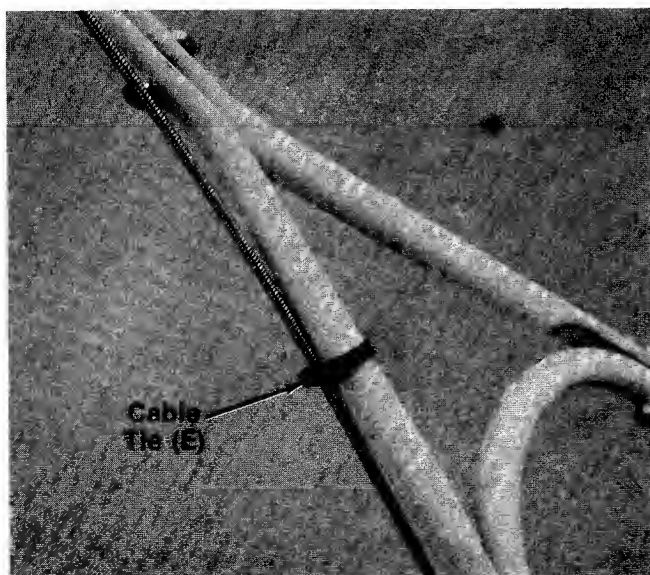

FIGURE 7.
11. Secure throttle control wire to handle with two cable ties (E) provided in hardware pack. See figure 7.
13. Slip hand grips (A) on the upper end of each handle. They will slip on more easily if you first soak them in warm, soapy water.